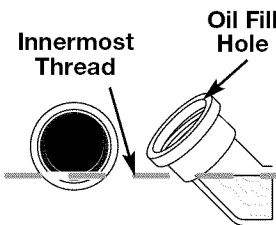
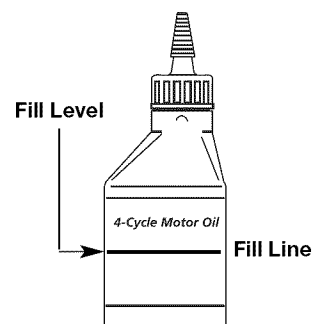

Fig. 17
Fig. 20
5. Look into the oil fill hole (use a flashlight if needed). The oil should be just touching the innermost thread (Fig. 17).
6. If the oil level is not touching the innermost thread on the oil fill hole, add a small amount of oil to the oil fill hole and recheck (Fig. 17). Repeat this procedure until the oil level reaches the innermost thread on the oil fill hole.
NOTE: Use the bottle and spout saved from initial use to measure the correct amount of oil. The fill line on the label on the bottle measures approximately 2.03 ounces (60 ml) (Fig. 20). Check the level, See Checking the Oil Level. If the level is low, add a small amount of oil and recheck. Do not overfill (Fig. 17).